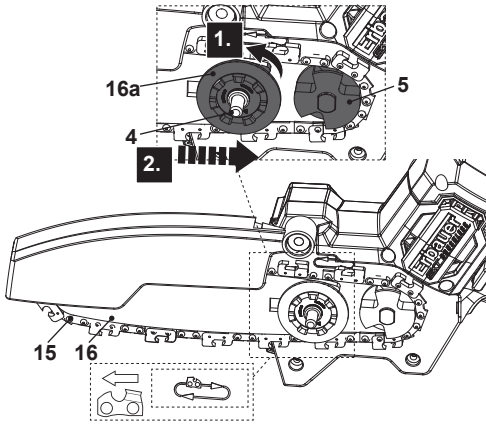

Fig. 3
4. Rotate the turning wheel (16a) anticlockwise to adjust the guide bar (16) towards the right to the end of slot. Align the saw chain (15) and guide bar (16) assembly with the drive sprocket (5) and the mounting bolt (4). Lay the saw chain (15) around the drive sprocket (5) and then lower the guide bar (16) to install it to the mounting bolt (4) (Fig. 3, steps 1, 2).